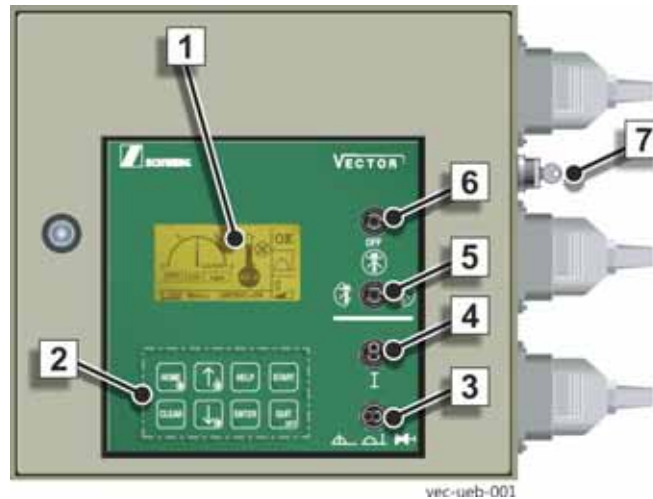

Fig. 263 VECTOR control system
<ul style="list-style-type: none"> ➤ Select the "Local" operating mode using the operating mode selector switch (3) (Fig. 263). ➤ Lower all vertical outriggers until they are touching the ground. A horizontal extension of the outriggers is not required. <p>Exception for S65SXF</p> <p>For models with the type S65SXF, the folding elements in the front bow outrigger have to be completely extended before extending the rear folding outriggers partially (see Vector control display) and bracing them vertically.</p>